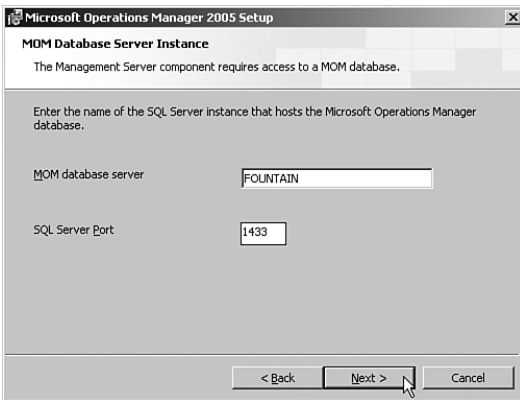

FIGURE 6.15 Specify the database server instance.
4. You are asked to supply the location of the MOM database server instance because Setup could not find a database server on Monarch. Specify Fountain as the MOM database server and click Next, as illustrated in Figure 6.15.